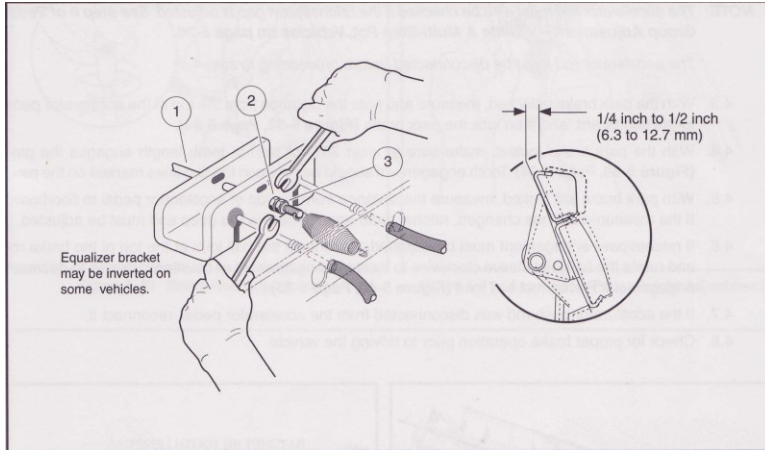
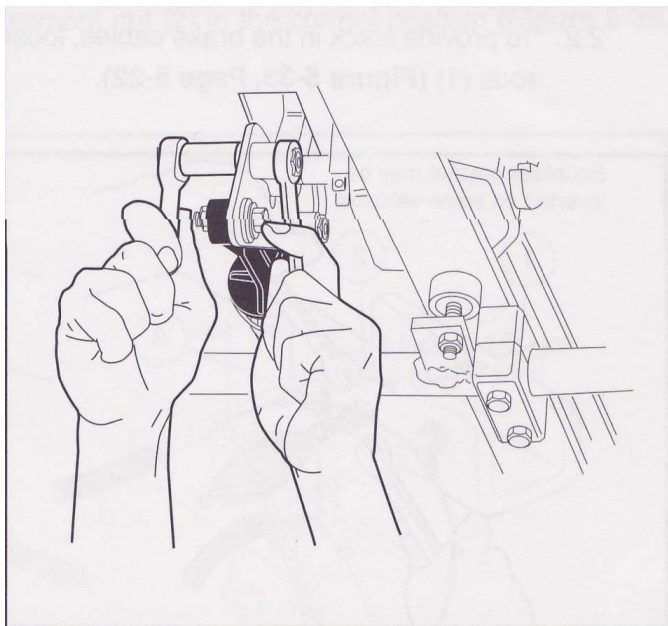

Figure 5-26
Figure 5-31
9. Tighten the nut (2) on the equalizer rod (1) so that the brake pedal free play is $\frac{1}{4}$ to $\frac{1}{2}$ inch (6.3 to 12.7mm) (Figure 5-26)
10. Tighten the jam nut while holding (3) while holding the adjustment nut (2) in the correct position (Figure 5-26).
13. Adjust retaining nut (7) on spring support rod until there is a .060 inch (1.5mm) gap between the pawl and the tips of the ratchet teeth. Use a feeler gauge to verify the gap. The gap should be consistent through the range of pawl movement. If the gap is not consistent, loosen the four bolts (6) securing the accelerator pivot rod supports and adjust the supports. If the gap becomes smaller as the park brake pedal is depressed, move the pivot rod supports slightly rearward until the gap is consistent. If the gap becomes larger as the park brake pedal is depressed, move the pivot rod supports slightly forward until gap is consistent.
20. Loosen the nut and bolt (Figure 5-31) securing the accelerator pedal to the pivot plate.